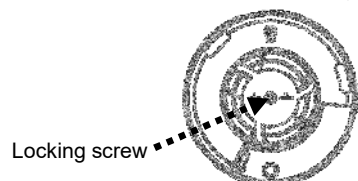

Fig. 5
5. Undo the locking screw in the middle of the IPX cover. Lift IPX cover off. (Fig. 5)